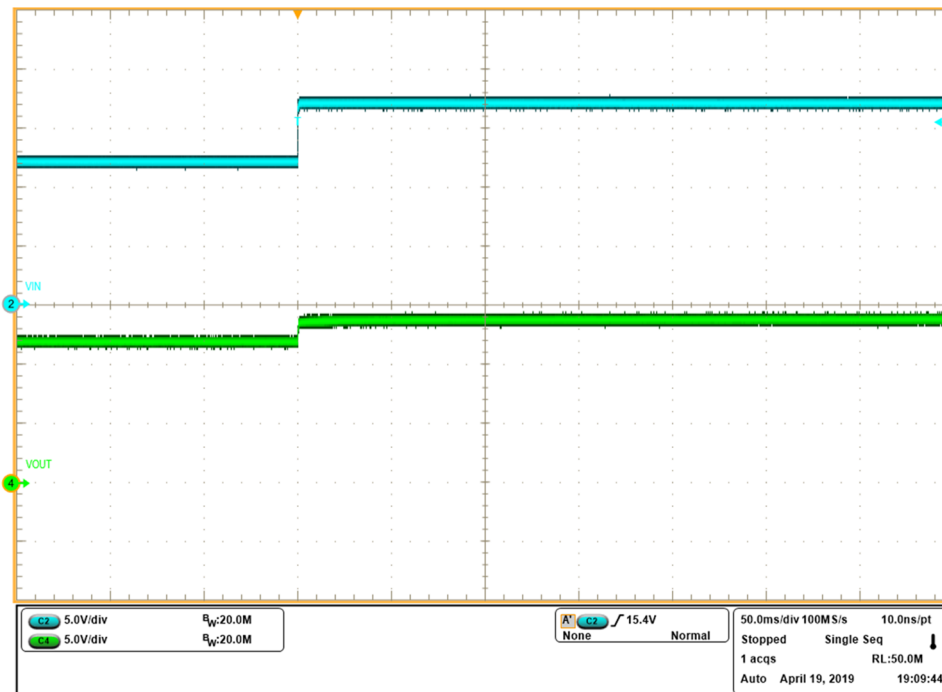

Figure 5. J3 = 1-2, Overvoltage Test (CH1)
- Adjust the VIN1 power supply voltage to a value less than output clamp threshold and turn it ON. Increase the VIN1 power supply voltage to a value above the clamp threshold. The level of the output voltage clamp should match with the clamp threshold (based on the respective jumper setting), as shown in Table 10. Figure 5 shows the overvoltage test for jumper setting, J3 = 1-2.